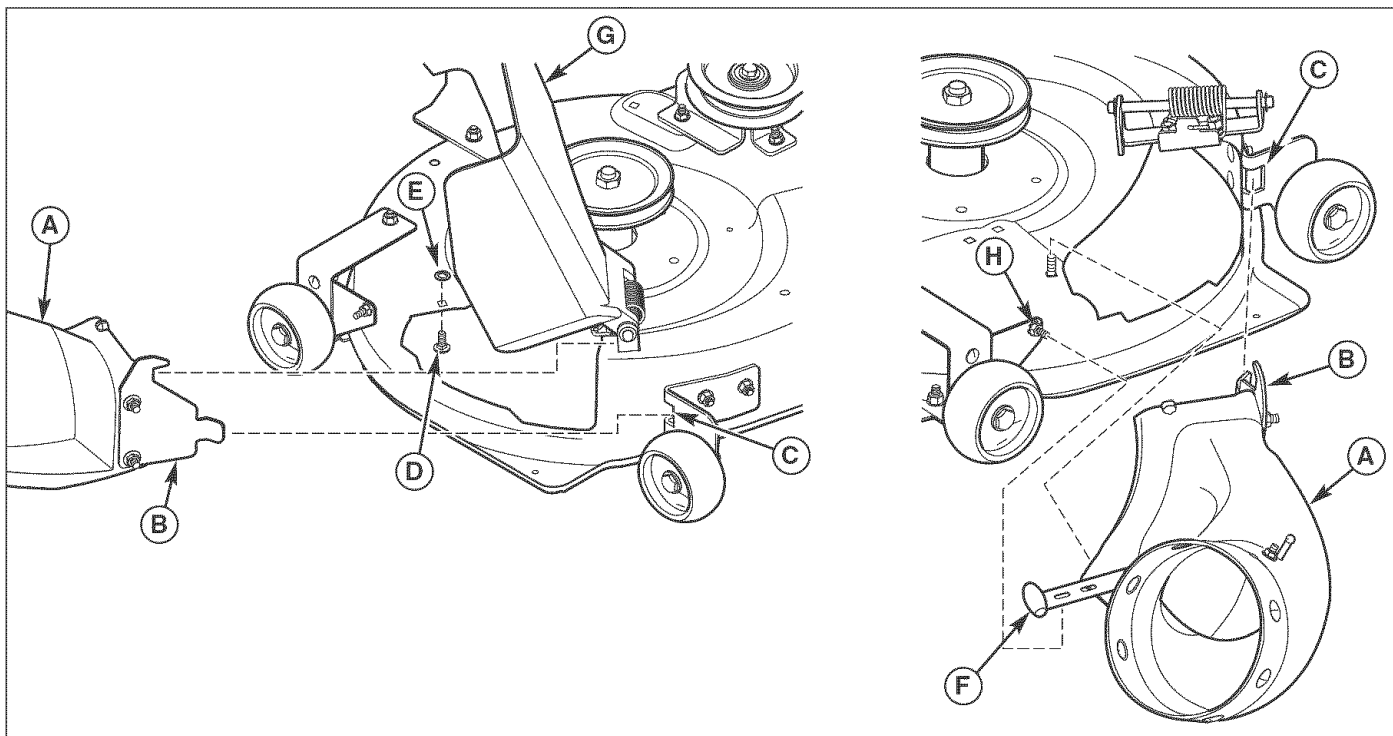

Figure 14. Install Lower Tube - 42" Mower Deck
1. Install 5/16 x 7/8 carriage bolt (D, Figure 14) with 5/16 push nut (E) to mower deck as shown.
2. Lift discharge deflector (G).
3. Insert front latch plate (B) into front latch plate mount (C). Swing lower chute into place below discharge deflector (G) placing hole in lower chute over carriage bolt (D).
4. Stretch rubber strap (F) down to the rear latch plate mount bolt (H) attaching the first hole in the rubber strap over the mount bolt.